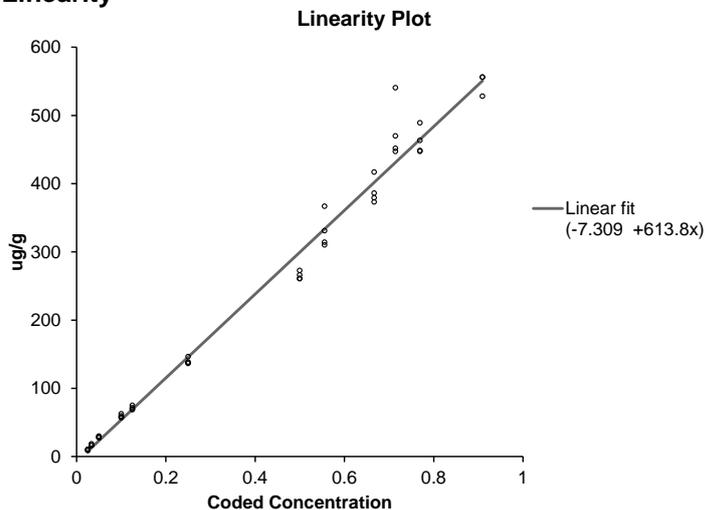

Figure 3
**Linearity: 10-600 µg/g.** Assay linearity was assessed according to CLSI-approved guideline EP6-A. Four extracted stool samples with concentrations higher than 600 µg/g were diluted in incubation buffer. For each sample up to 17 dilutions in the range of 1:2500 (lowest recommended dilution) up to 1:500000 were performed. Linearity results for one of the extracted stool samples are presented in Figure 3.